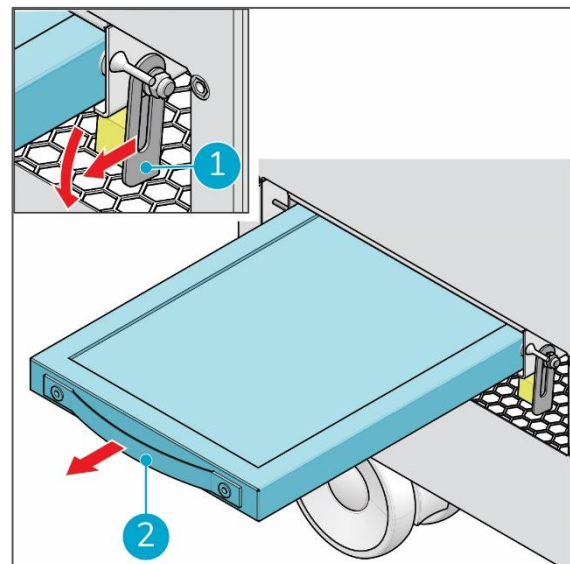

Figure 18
3. Pull the filter lock (Figure 18, pos. 1) forward and push it down.
4. Take the carbon pre-filter by the handle on the front of the filter (Figure 18, pos. 2) and carefully pull it out of the compartment.